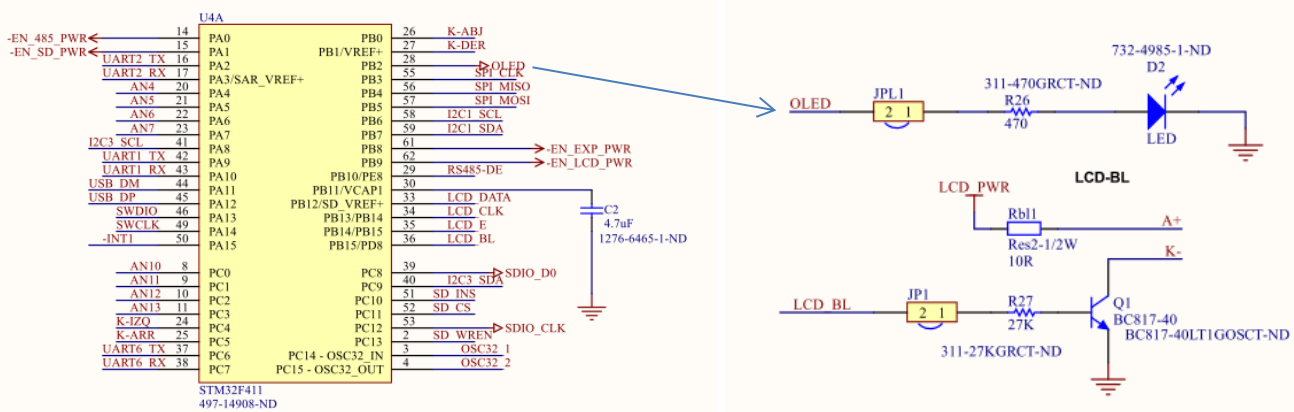

Figure 6 – OLED connection from PB2 on main controller (sheet 7) to OnBoard general purpose LED (OLED, sheet 3) of CL3 schematic
a) Example2: (sAPI3C_BM_ej2) It blinks the OLED output, which as seen in the CL3 schematic [ref03] is mapped to PB.2 port as output and connected to D2, turning it on and off using simple blocking delays and the `sapi3c_gpio()` functions. BM indicates "Bare Metal", meaning an infinite loop, no OS. This example requires JPL1 to be jumpered as shown in Figure 6. It also adds the use of: **a.1)** the UART6 serial port as a terminal at 115200,N,8,1 and from there to the RS232#0 converter, and **a.2)** the 4 contact membrane keyboard connected to the JK1 connector, which maps to controller ports PB.0, PB.1, PC.4 and PC.5. A low cost - general purpose RS232 serial to USB (e.g. Manhattan) converter is supposed to be available and attached to the RS232_2 connector and to the user PC as shown in Figure A.1 of APPENDIX I. A conventional Terminal program such as TeraTerm should be running on the PC.